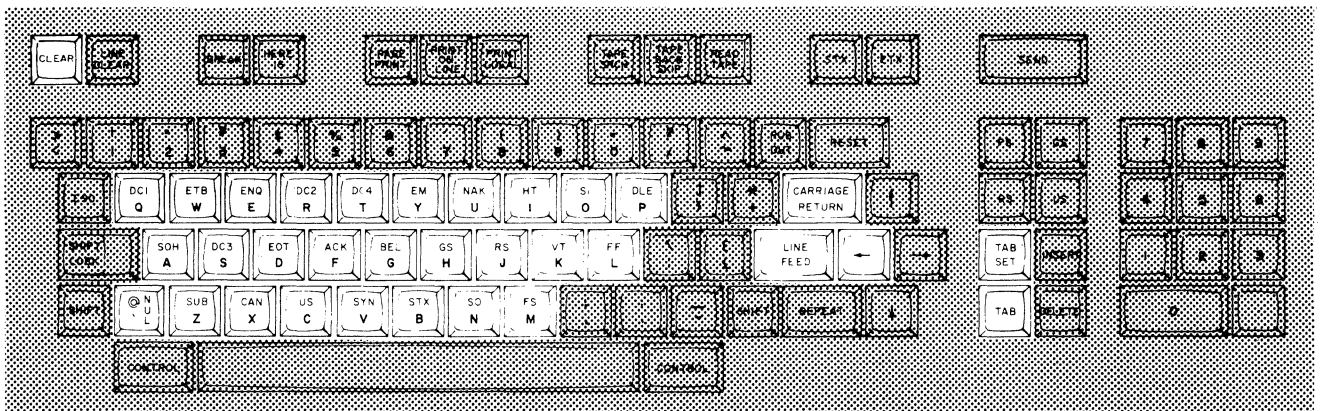

Figure CRT41. Special Control Code Keys
- b) While pressing either CONTROL key, press each of keys shown in figure CRT41, examining display for control code symbols (see Appendix for control code symbols repertoire).